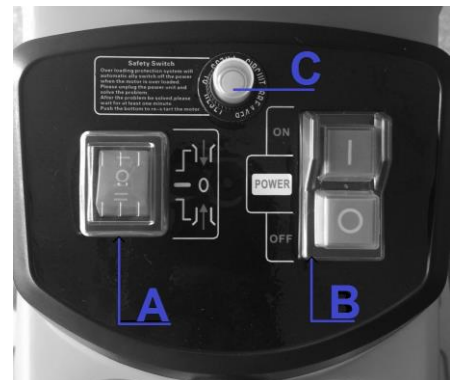

Fig.5
4.4- Start and Stop (Fig.5)
4.5- Overload protection (Fig.5)